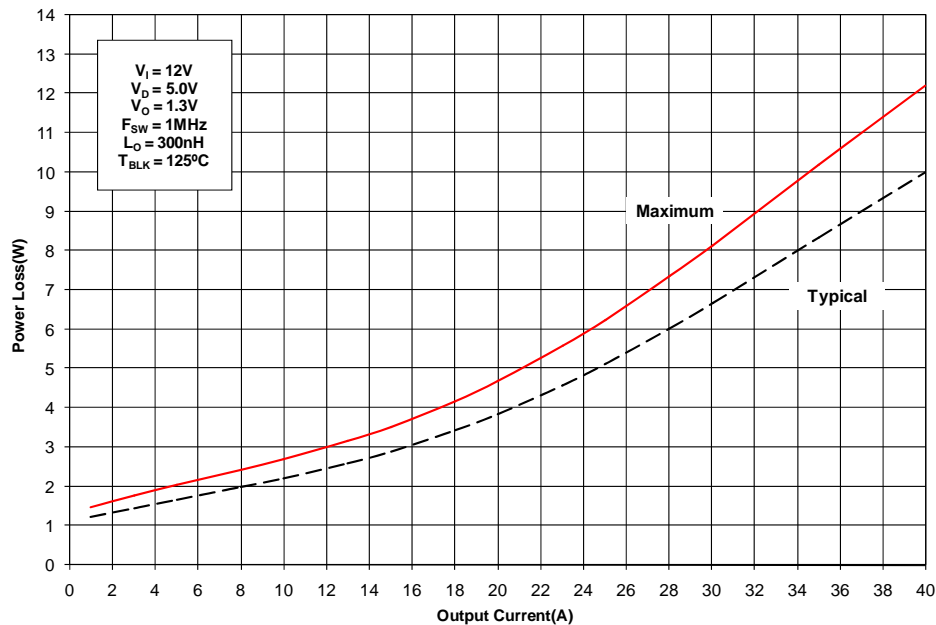

Figure 1 Power Loss versus Output Current
1. Determine the maximum current for each iP2004 and obtain the maximum power loss from Figure 1
3. The maximum power loss under the Application conditions is then the product of the power loss from Figure 1 and the normalized values.
| (Figure 1) | Maximum power loss = 8.0W |